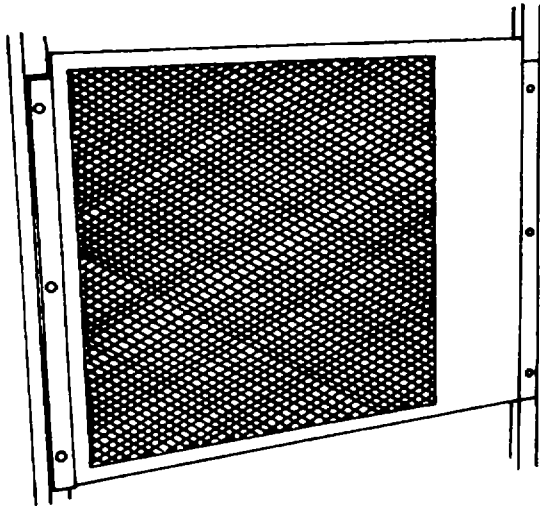

Figure 3-8. Belt Guard
1. To check tension on compressor drive; detach belt guard by removing six 7/16-in. Hex bolts (figure 3-8).